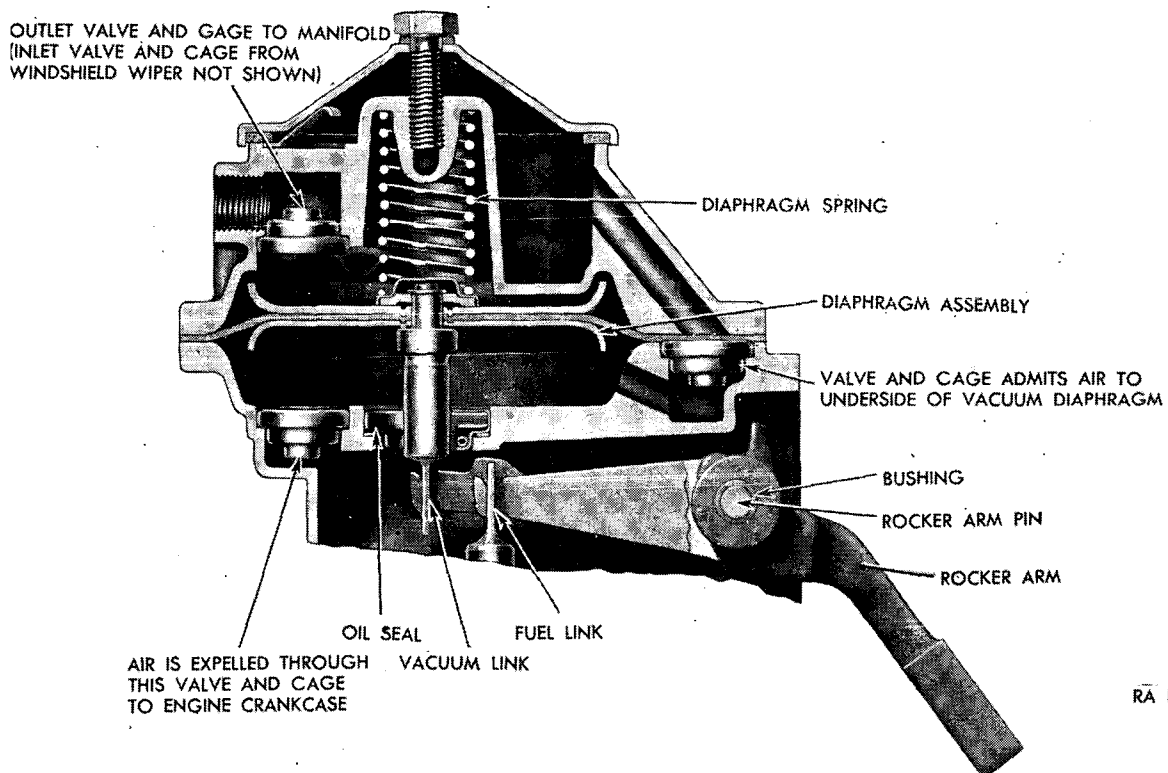

Figure 4. Mechanical action four valve vacuum section.
c. Mechanical Action Four Valve Vacuum Section (fig. 4). Force is applied to the rocker arm by an eccentric on the camshaft. Rocker arm movement through the links and pull rod, pushes the diaphragm upward, expelling air from above the diaphragm, through the outlet valve into the manifold. On the same stroke, air is pulled through the valve between body and cover into the expanding area below the diaphragm from the windshield wiper motor. The return stroke (low point of cam) releases the compressed diaphragm spring, pushing the diaphragm down, expelling air from below the diaphragm, through staked valve in body, into the engine crankcase. On the same stroke, air is pulled through inlet valve, into the expanding area above the diaphragm, from the windshield wiper.